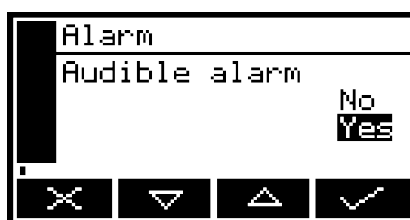

Figure 29: The Audible alarm option screen
2. If the displayed alarm setting is not the required setting, press the soft key. The Audible alarm option screen will then be displayed: see Figure 29.